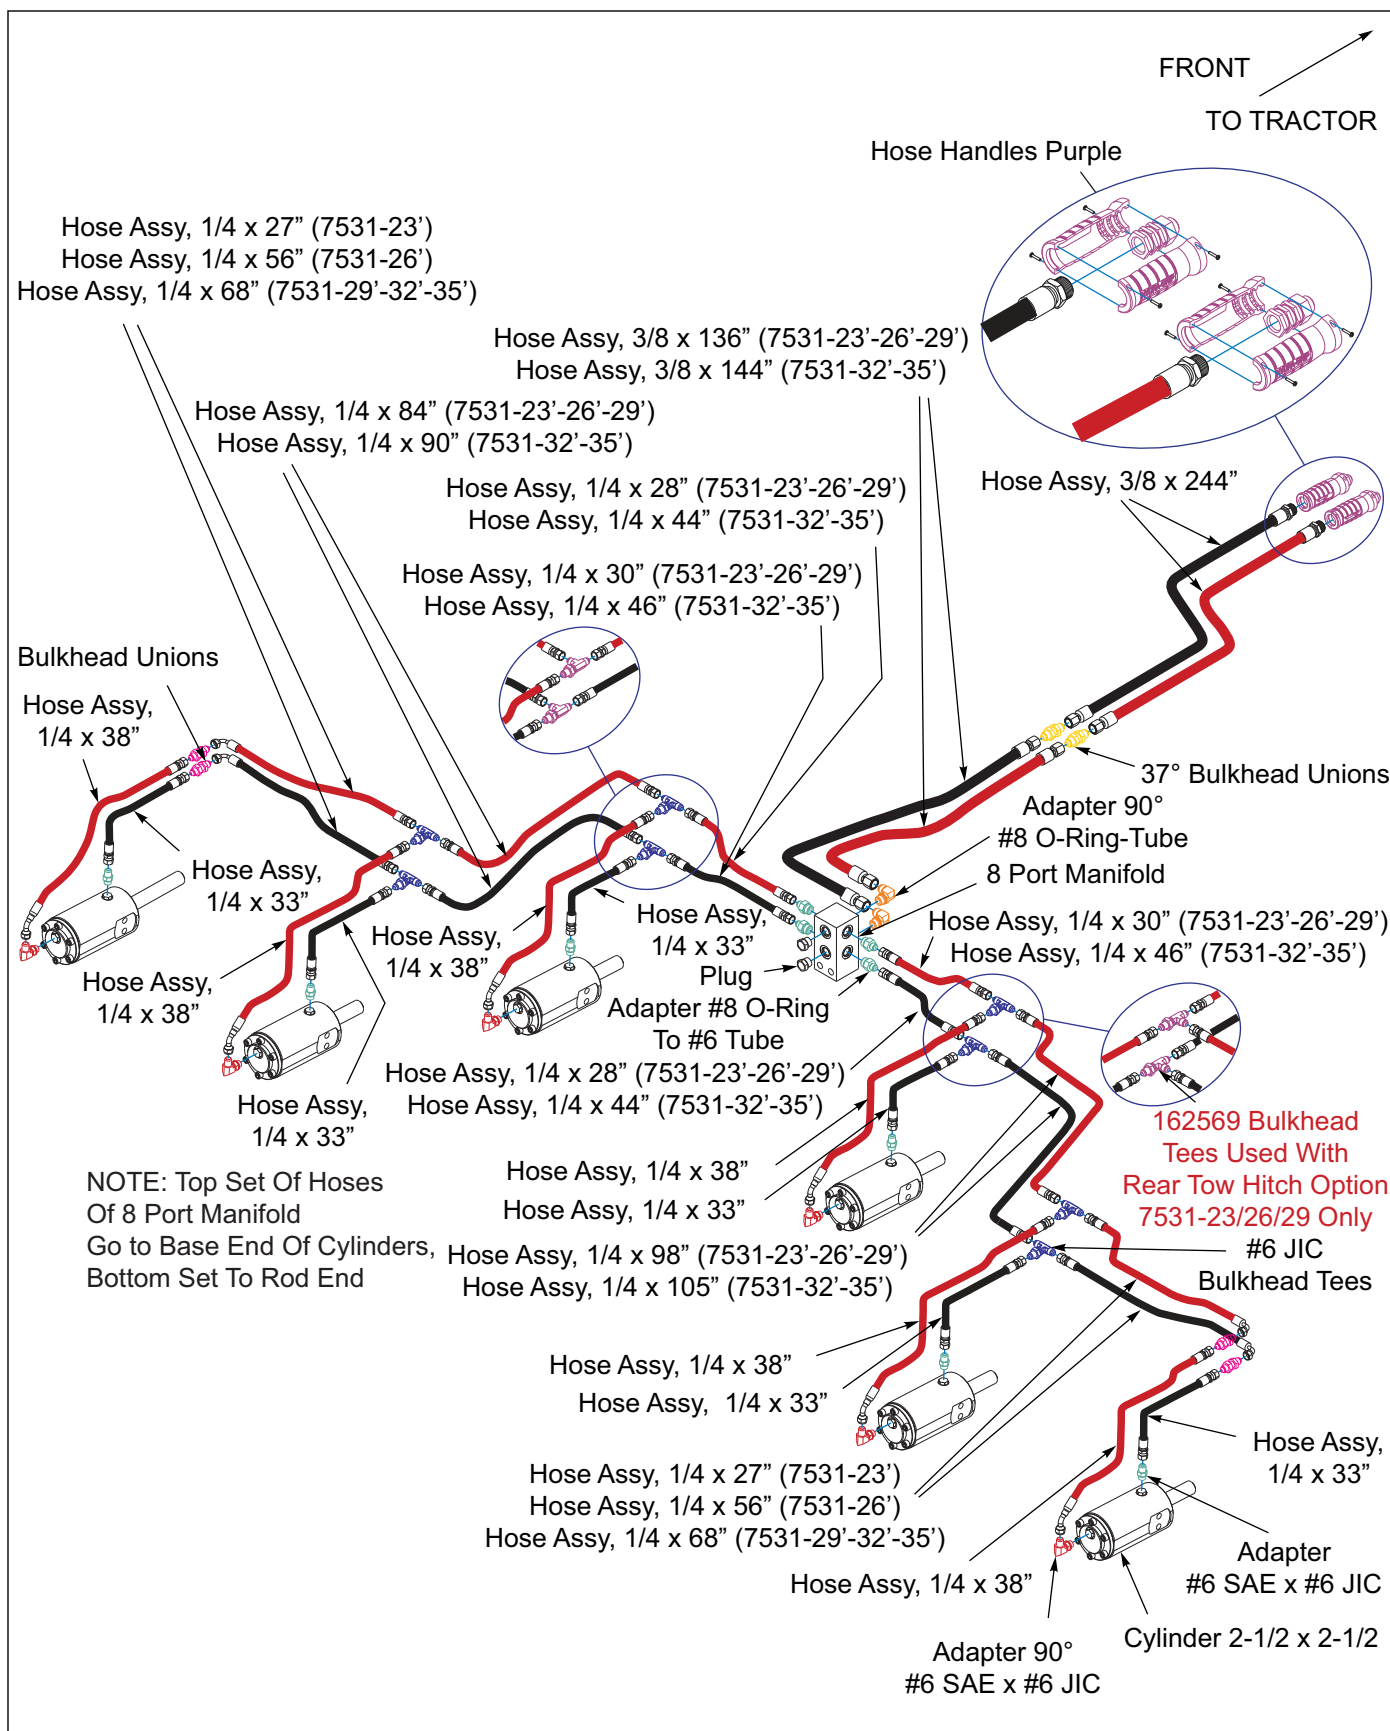

Figure 3-61: Reel Hydraulic Assembly
2. Install cylinders, fittings and hoses as shown **See Figure 3-61**.
4. Install (4), 1/2 clamps at the rear of the reel arm support the hoses. The bottom hose should be 33" going to rod end of the cylinders. The top hole is 38" going to the base end, the 45° fitting attaches to the cylinder.